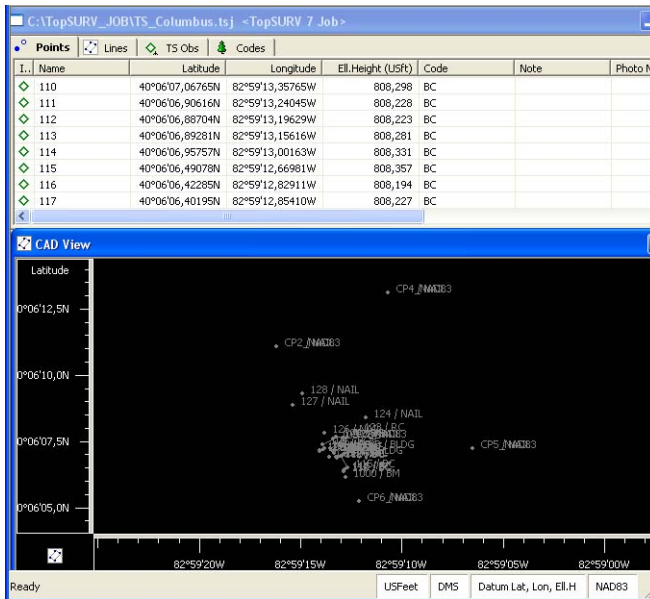

Figure B-12. CAD View and Points Tab: NAD83 Coordinate system
7. Figure B-12 displays the coordinate job point in NAD83 coordinate system.